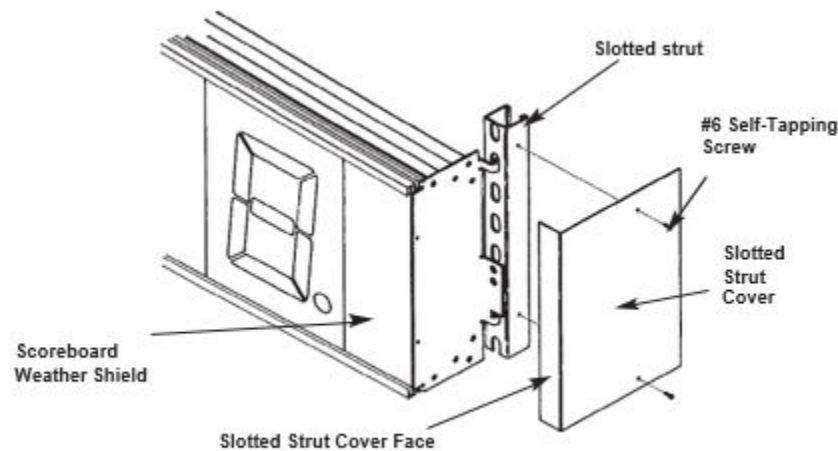

Figure 3-O: Installing optional slotted strut cover
- 1) Position the cover over the slotted strut on one of the outside edges of your scoreboard, aligning the front face of the cover behind the scoreboard weather shield slot as shown in Figure 3-O.